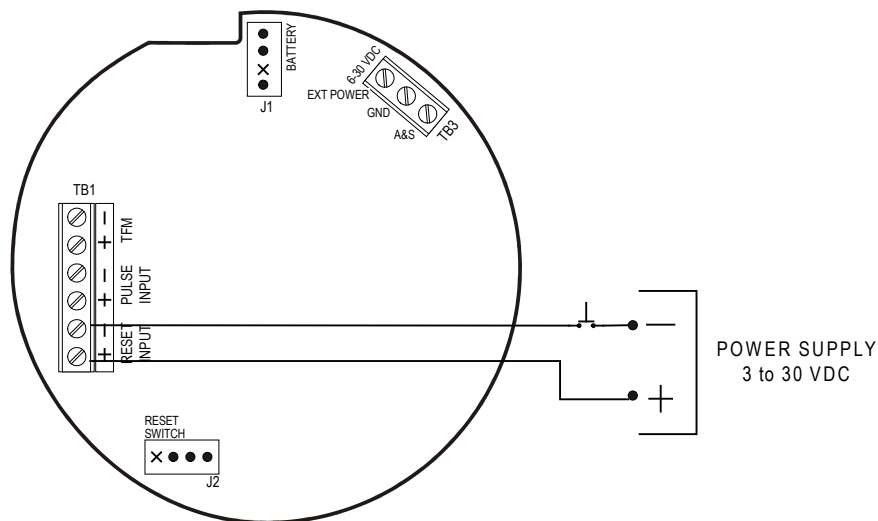
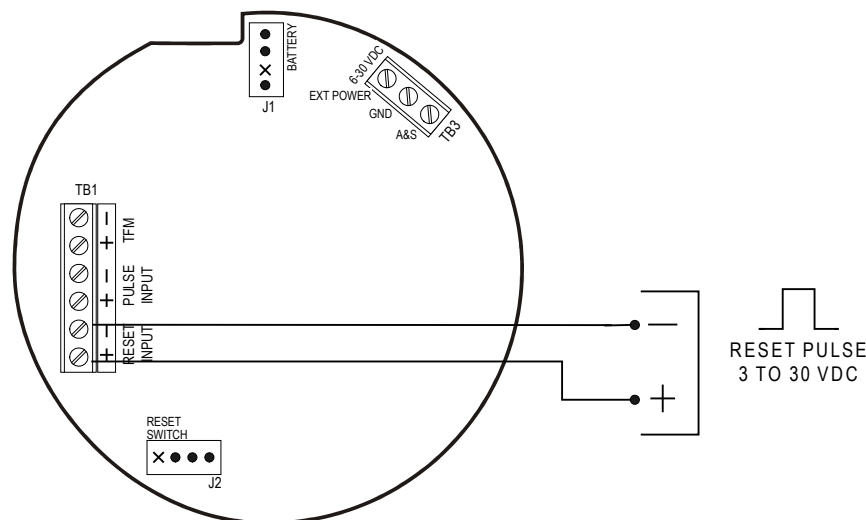

Figure 2.7—Reset input wiring (when power supply and reset switch are in a safe area)
Figure 2.8—Reset pulse input wiring (when pulse generator is in a safe area)
7. Connect wiring for the remote reset input to terminal block TB1, if appropriate. See Figures 2.7 and 2.8, page 16.
The remote reset input allows the operator to reset the accumulated volume on the MC-III EXP to zero without opening the enclosure. This input is optically isolated. The input is shown connected in two ways, with a power supply and switch in a remote location (Figure 2.7), and with a pulse generator in a remote location (Figure 2.8). The remote reset input can also be controlled with an optional explosion-proof switch mounted in the top of the enclosure. See Appendix A for installation and wiring instructions.